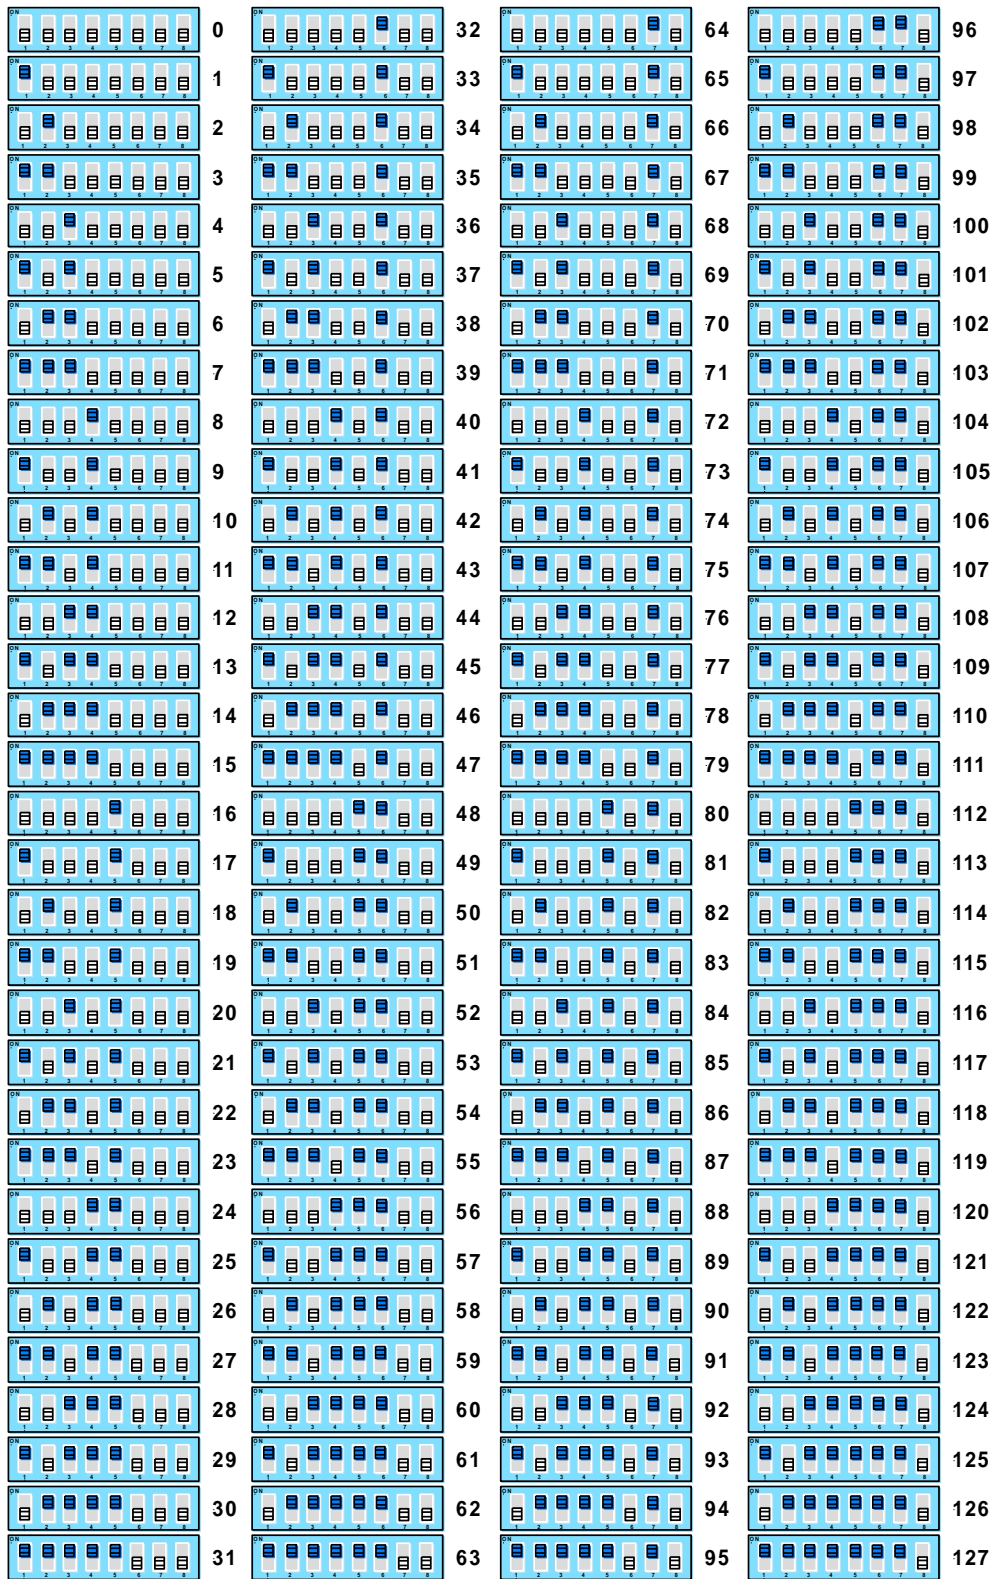

Figure3: Address Settings
2. Locate the mounting box over a flat surface and secure with four (4) screws tightened evenly to prevent distortion.
3. Set the address of the MCP by way of the 'Address Switch' See Figure 3.